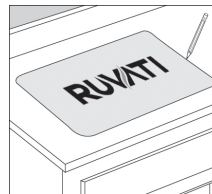

Figure 1
1. Place the sink cut-out template on the countertop, where the sink is to be installed. Trace around the outside perimeter with a pencil (Figure 1). **Note: Make sure you are using the top-mount template.**